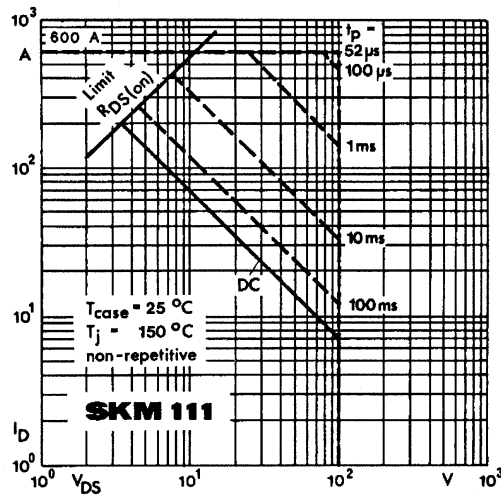

Figure 2.3 Maximum safe operating area  $I_D = f(V_{DS})$  during pulse operation (SOA)
- maximum power dissipation or chip temperature (diagonal broken termination line in Figure 2.3);
Figure 2.3 shows the maximum curve  $I_D = f(V_D)$  during switching and on-state for different pulse durations  $t_p$  at a double logarithmic scale.